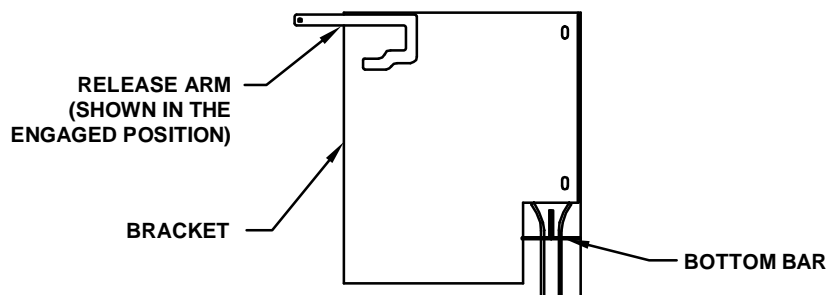

FIG D3
- 8) To reset the door, see reset instruction in FIG D3.